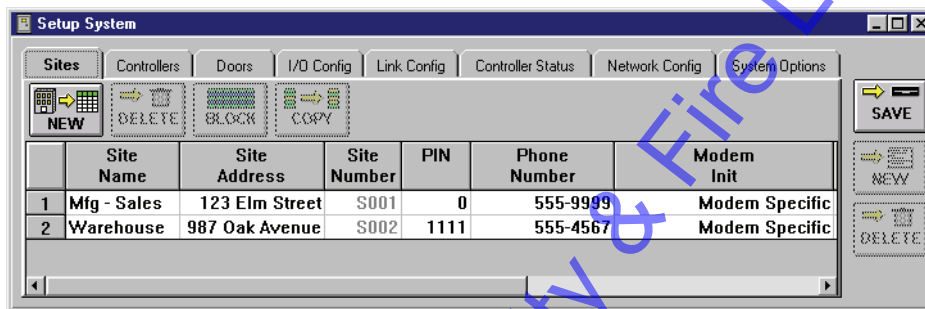

Figure 8-8: Site Configuration Information - Part 1
2. Type a descriptive name for the site. For example, the new site is for a parts warehouse; type **Warehouse** (see Figure 8-8 on page 9 of this section).
2. Type in the address for the site. For example, the parts warehouse is located on 987 Oak Avenue; type **987 Oak Avenue** (see Figure 8-8 on page 9 of this section).
2. Type a four-digit number for the site. For example, the parts warehouse is assigned PIN 1111; type **1111** (see Figure 8-8 on page 9 of this section).
2. Type the phone number for the site. For example, the warehouse’s phone number is 555-4567; type **555-4567** (see Figure 8-8 on page 9 of this section).
Based on the parameters entered so far, the database for the Mfg - Sales site should look similar to Figure 8-8 on page 9 of this section.